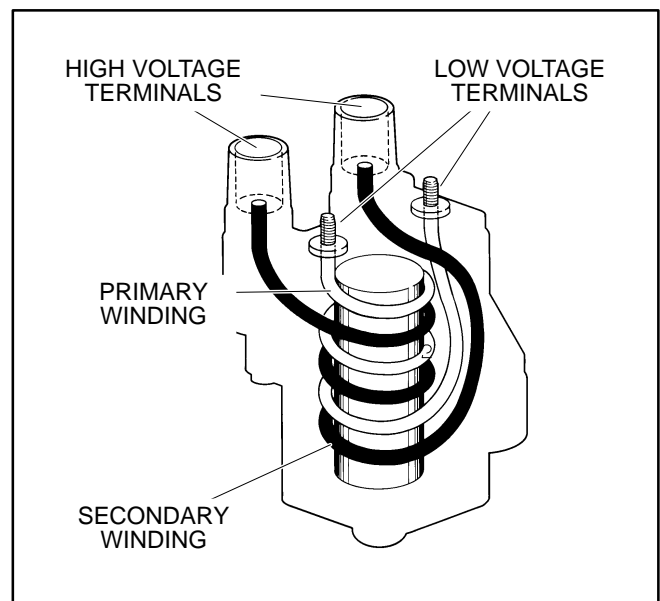

FIGURE 13. IGNITION COIL
See Figure 13. The ignition coil is a transformer that fires the spark plugs at roughly 20,000 volts each revolution when the ignition module opens the primary circuit causing the coil field to collapse.
**⚠ CAUTION** *The leads connected at the low voltage terminals of the ignition coil (Figure 13) should not be routed so as to pass between the high voltage terminal posts. The result could be erratic operation due to false signals induced in the primary leads.*